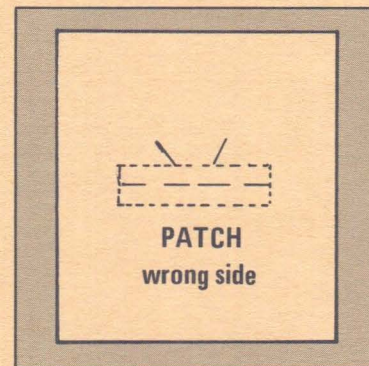
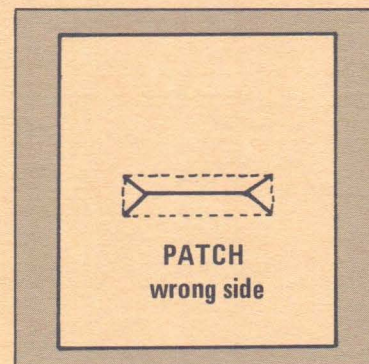

Figure 4
Figure 5
- Stitch on wrong side of garment using a very small stitch (20 stitches to the inch). Start stitching in center of long side of buttonhole to corner, pivot fabric on the needle. Count same number of stitches across both ends and continue around the rectangle, overlapping the beginning stitches about 1/4 inch (Fig. 4).
- Using tips of a small, sharp scissors, carefully cut the center of the buttonhole to 1/4 inch from each end. Cut from center line to the four corners. Corners must be cut to the line of small stitches (Fig. 5).
- Cut facing on center line and to each corner pin the same as the buttonhole (Fig. 5).
- Stitch with small stitches and cut the same as original buttonhole (Fig. 4 and Fig. 5).
- Stitch using a very small stitch (20 stitches to the inch). Start stitching in center of long side of buttonhole to corner, pivot fabric on the needle. Count same number of stitches across both ends and continue around the rectangle overlapping the beginning stitches about ¼ inch (see Fig. 4).
- Using tips of a small, sharp scissors, carefully cut the center of the buttonhole to ¼ inch from each end. Cut from center line to the four corners. Corners must be cut to the line of small stitches (see Fig. 5).